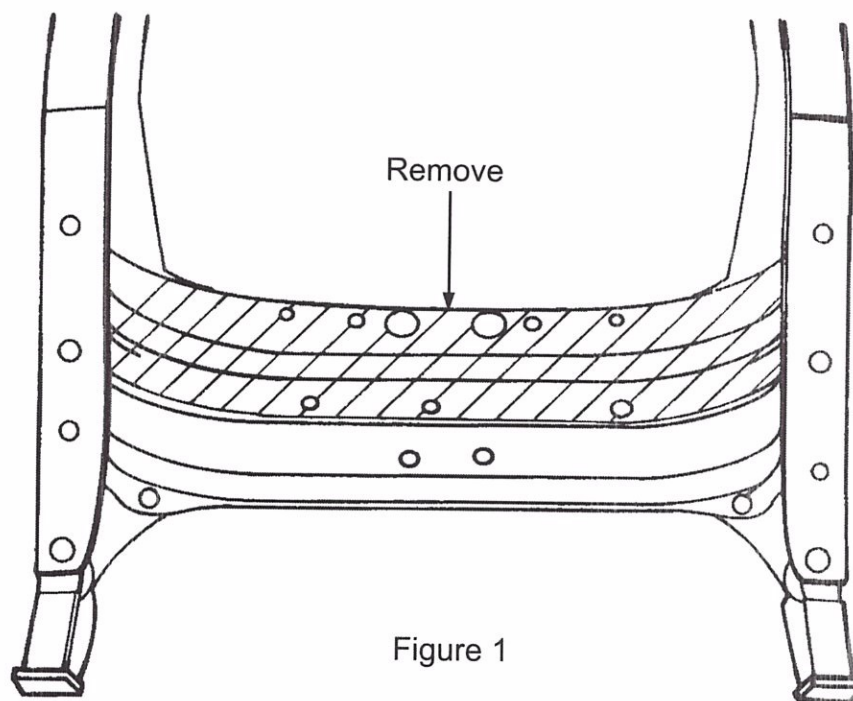

Figure 1
3. The radiator support crossmember will need to be modified next. Figure 1 shows the rear section that will need to be removed to provide clearance for the rack and pinion. The front section of the crossmember remains in place to support the radiator.